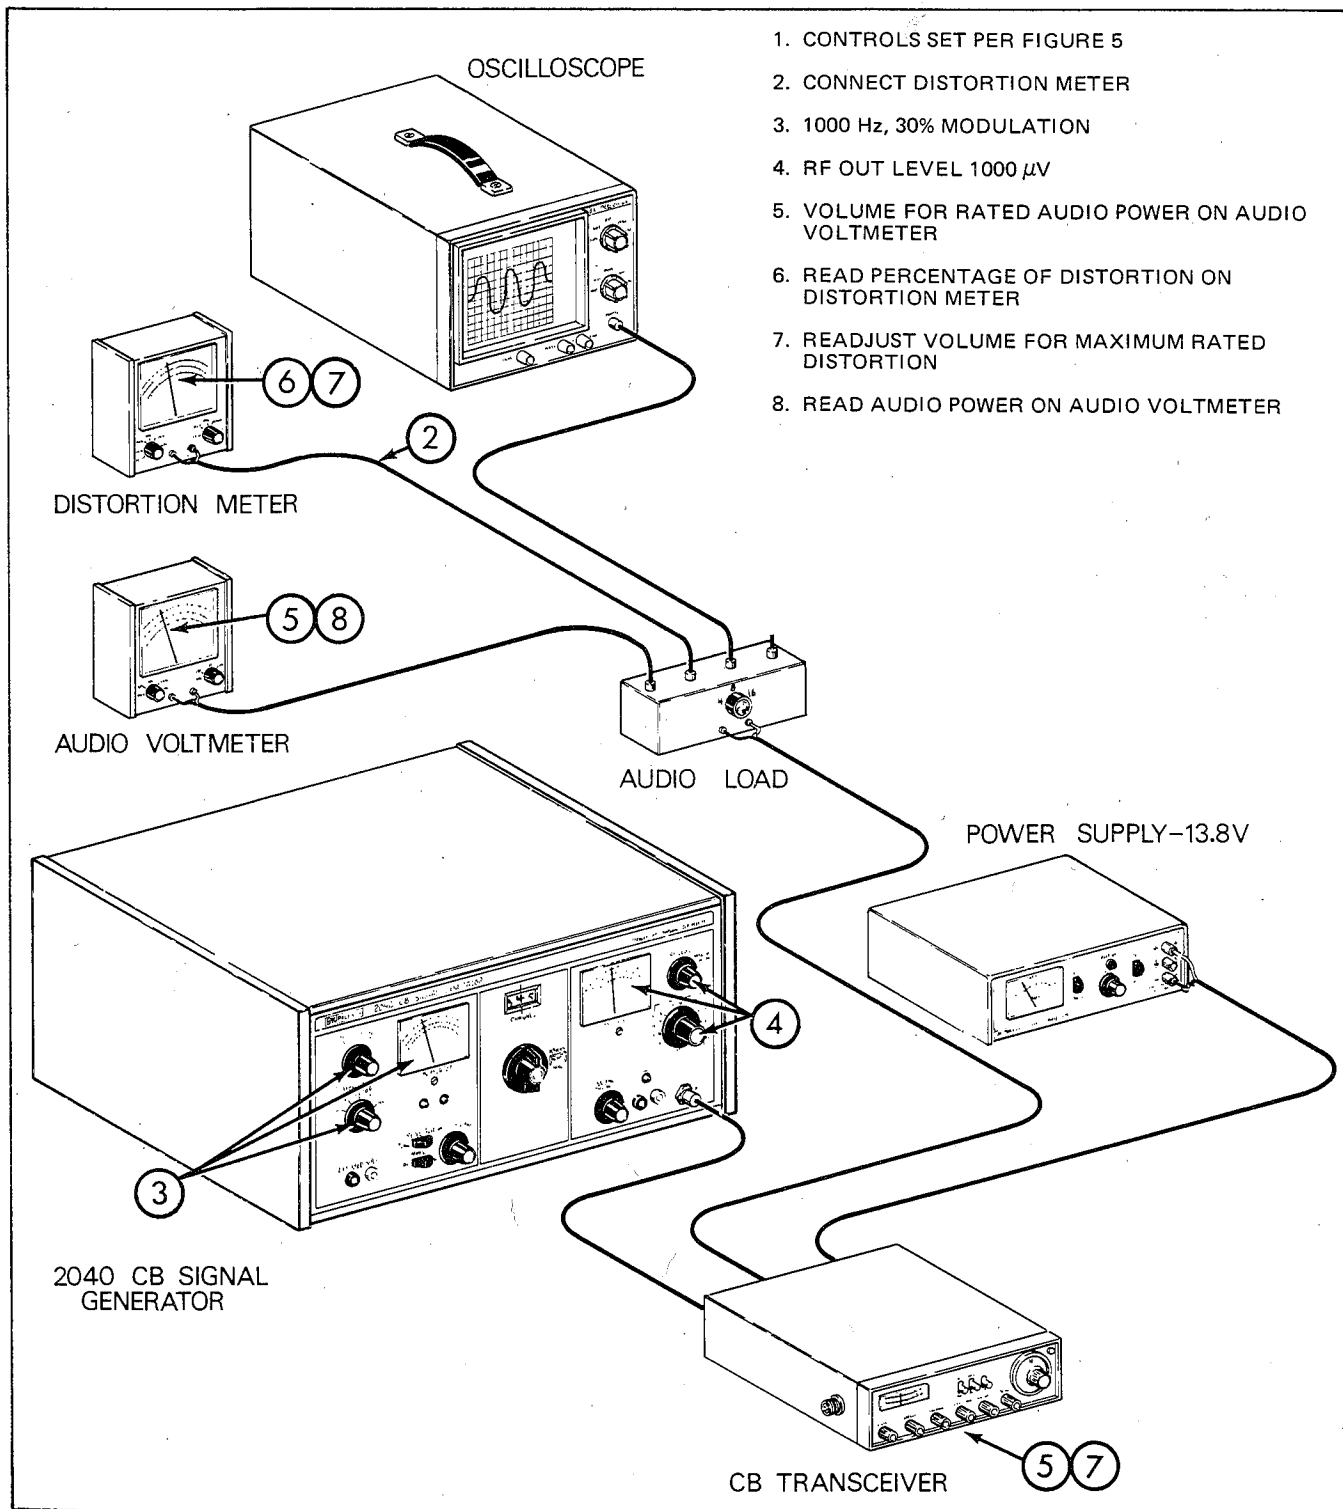

Fig. 12. Receiver audio power and distortion check.
(Refer to Fig. 12)**
2. Connect a distortion meter across the audio load as shown in Fig. 12. If the test equipment hook-up shown in Fig. 5 or 6 was used for previous tests, no changes are necessary.